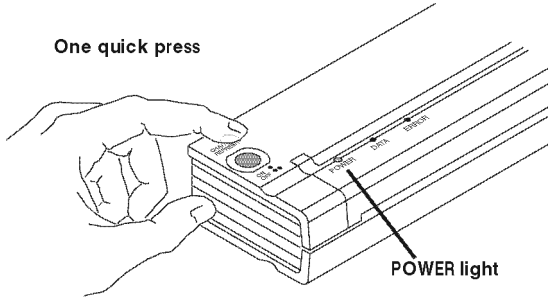

Figure 8. Turning the printer ON
2. Turn the printer on by pressing the main switch once quickly. The POWER indicator lights up. See Figure 8.